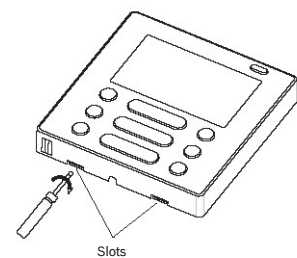

Fig. 3-4
- Insert a slotted screwdriver into the slots in the lower part of the controller (2 places), and remove the upper part of the wire controller cover. (Fig. 3-4)